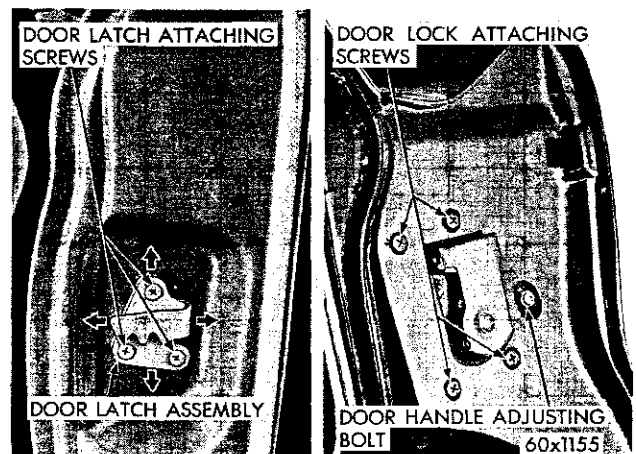

Fig. 8—Door Lock Rotor and Striker Assembly
(1) Make a thorough inspection of the door before attempting adjustment. A properly fitted door has evenly spaced gaps on all sides.
(2) Test the engagement of the door latch with the striker plate.
(3) If the door raises as the latch passes over the plate, the plate is too high and must be lowered.
(4) The striker plate, as shown in Figure 8, can be moved "in" or "out" and controls the tightness of the door against the body.
(5) The "up" and "down" adjustment will determine the actual point of engagement between the door lock rotor and the lower portion of the striker plate.
(6) Each hinge is attached to two floating plates, one located at the front pillar and the other at the door panel.